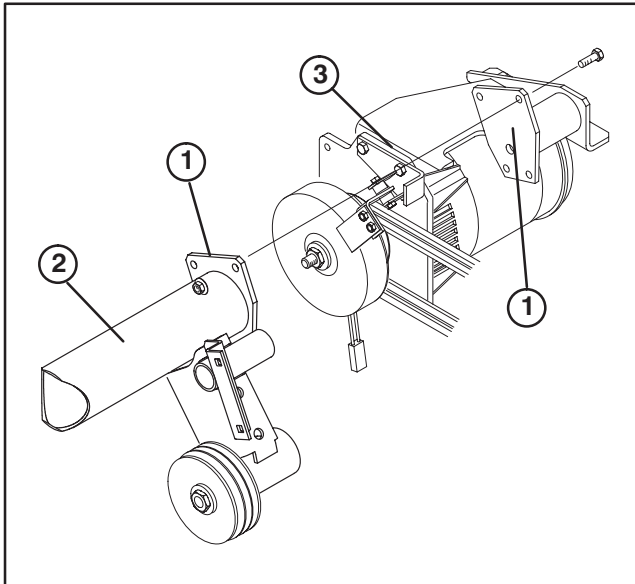

Figure 16
52. Remove all paint from mating areas of jackshaft support tube and generator mounting bracket with sand paper, to assure generator is grounded to vehicle frame (Fig. 16).
53. Mount generator to jackshaft support with (4) 5/16-18 x 1-1/4" lg. capscrews and flangenuts.